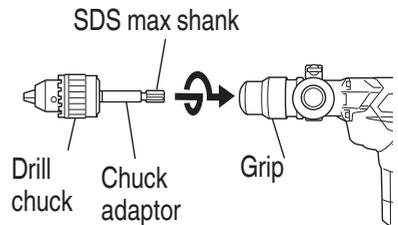

Fig. 13
- (2) Attaching chuck adapter to drill chuck (Fig. 13)
- (3) Drilling